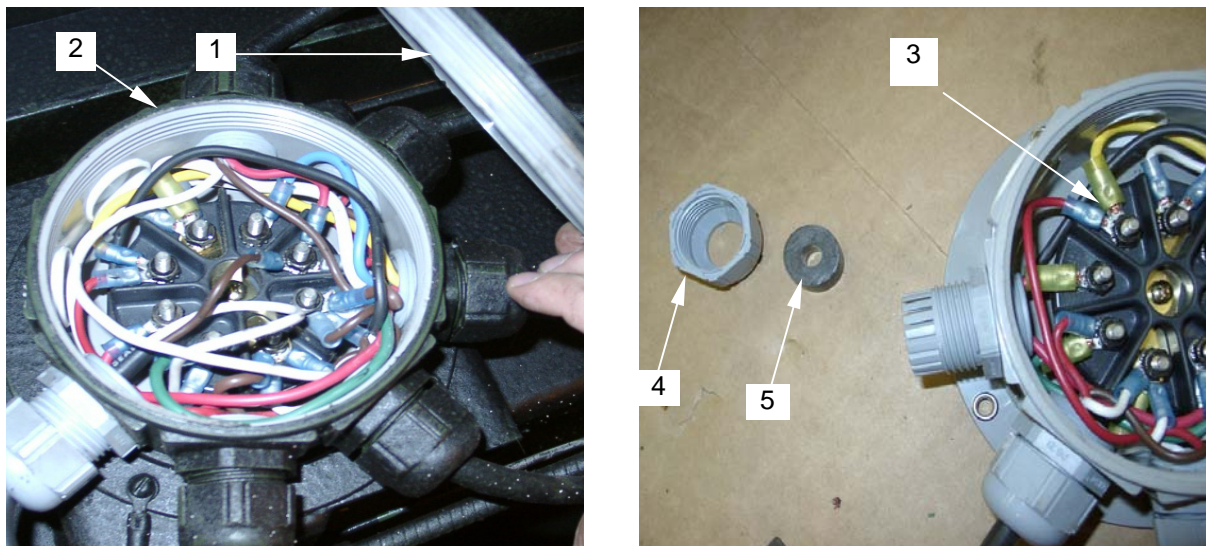

Figure 4. J-Box
3. Remove cover (**figure 4, item 1**) from J-Box (**figure 4, item 2**).
4. Tag and disconnect wires (**figure 4, item 3**) from J-box.
5. Loosen and remove strain relief nut (**figure 4, item 4**) and grommet (**figure 4, item 5**).